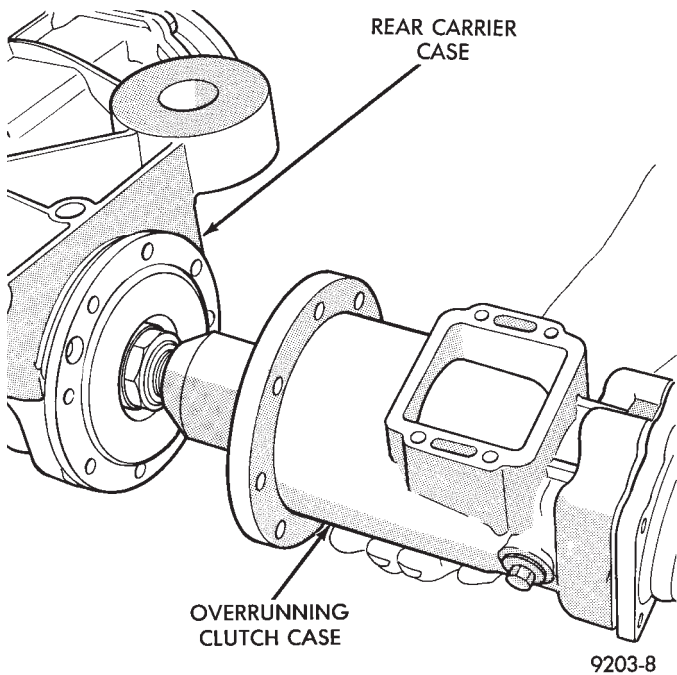

Fig. 7 Separate Rear Carrier Case from Overrunning Clutch Case
- (1) Remove rear drive line module assembly.
- (2) Remove overrunning clutch cover assembly.
(5) Separate the overrunning clutch case from the rear carrier case (Fig. 7).